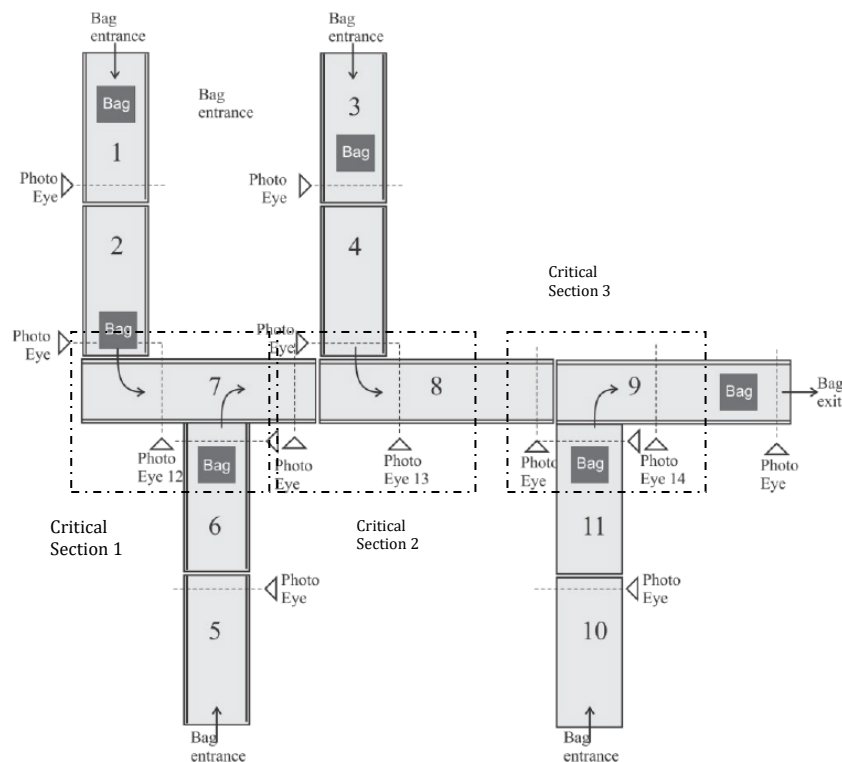

Figure 1: A small baggage handling system.
Baggage control is already implemented in a fully distributed fashion (with several re-used function blocks reading sensors and communicating with other controllers). Note that controllers are grouped as composite function blocks according to the grouping in the physical layout. The layout of the baggage handling system with the position of Photo Eyes, bag entrances and bag exits are shown in Figure 1.
- Using the following mutual exclusion algorithms: central server, ring token, and multicast, implement a mutual exclusion algorithm for each critical section. Use central server for Critical Section 1, ring token for Critical Section 2, and multicast for Critical Section 3. The three Critical Sections are marked in Figure 1.